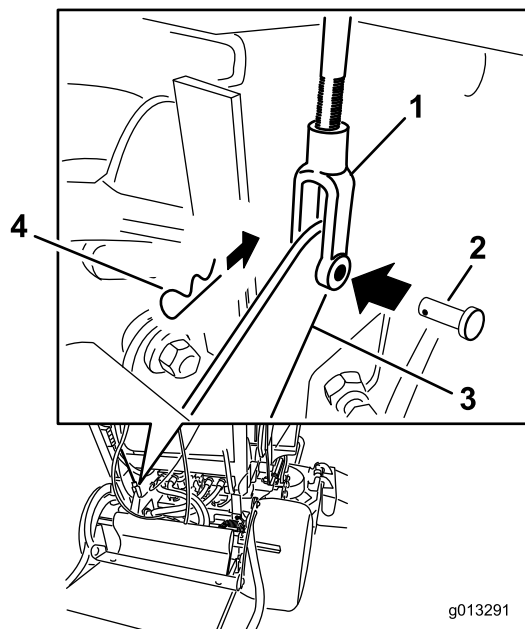

Figure 63
4. To adjust the brake, remove the clevis pin and hairpin cotter from the lower-brake lever and yoke (Figure 63).
7. Secure the yoke to the lower-brake lever with the clevis pin and hairpin cotter (Figure 63).